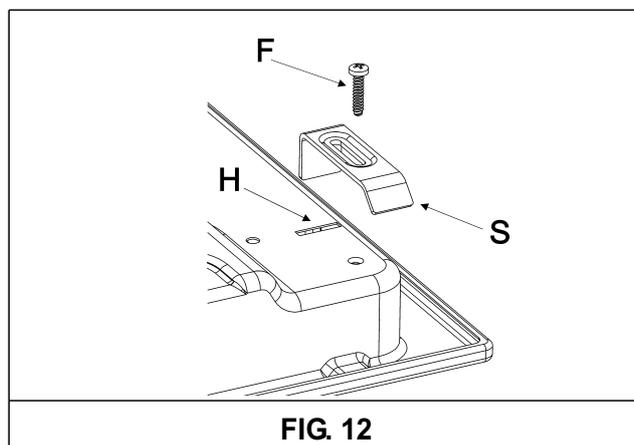

FIG. 12
- Fix the hob with the proper brackets "S" and fit the prominent part into the porthole "H" on the bottom; turn the screw "F" until the bracket "S" sticks on the top (fig. 12).